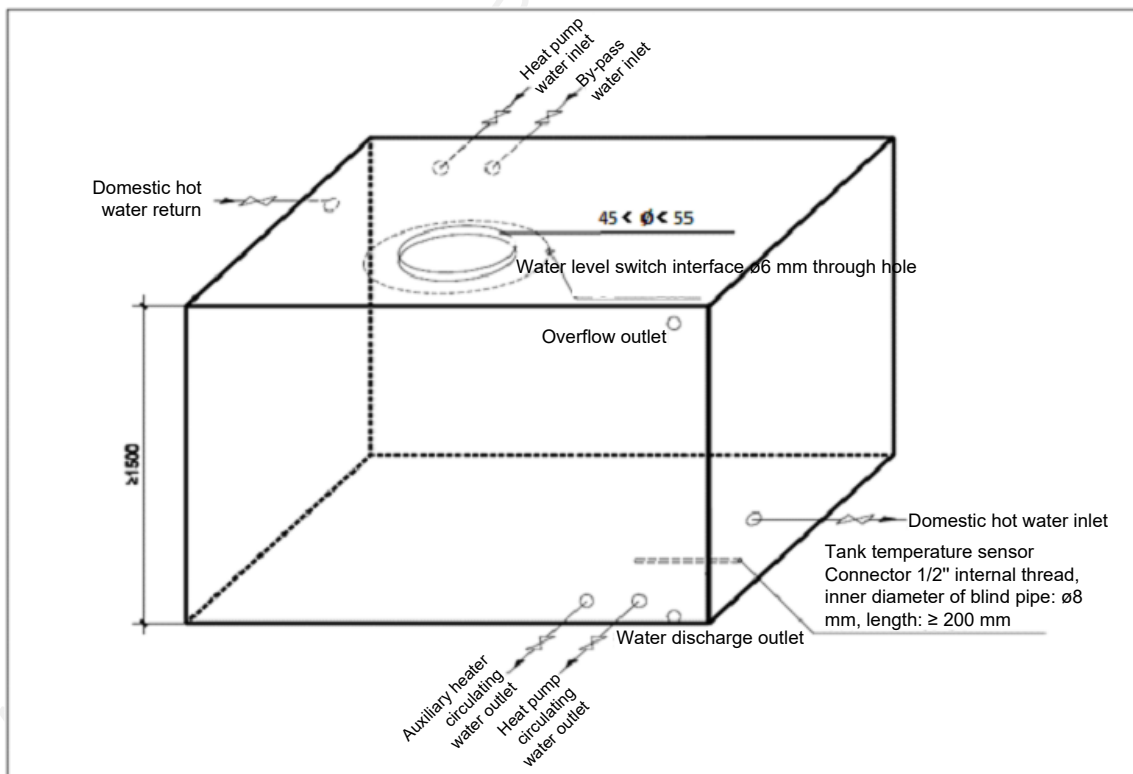

Figure 5.8 Schematic diagram of water tank connector
- The water tank shall be insulated. See connector requirements in Figure 5.8. The diameter of the opening for installing the water level switch ϕ must be larger than 45 mm and smaller than 55 mm. If the opening is too large, the switch cannot be fixed; if the opening is too small, the switch cannot be laid in the water tank.